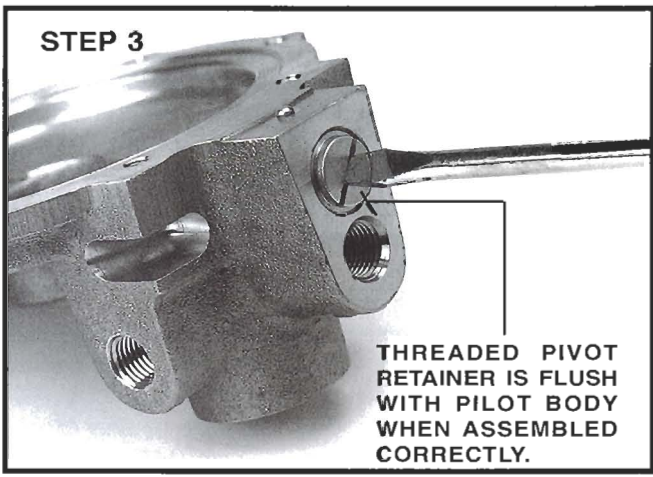

Figure 24. Screw the Retainer Plug firmly into place.
3. Screw the threaded Pivot Retainer onto the Pilot Body to hold the Pivot & Lever Assembly in place. The Pivot Retainer should be flush with the Pilot Body when installed correctly (refer to Figure 24).